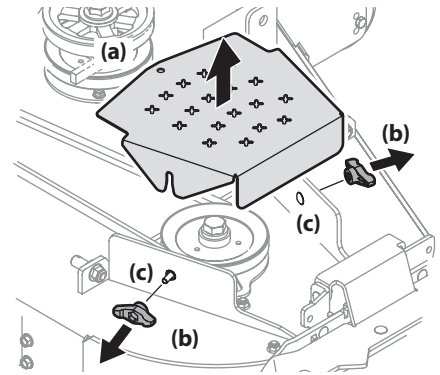

Figure 19
3. To remove the belt covers (a), remove wing knobs (b) from the carriage screws (c) securing it to the deck. See Figure 19.
4. Remove the belt from around the pulleys. On 36" decks, a belt keeper rod (a) will also need removed. Remove the two bolts securing the belt keeper rod (a) to the deck. See Figure 19.